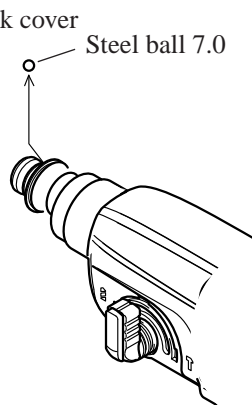

Fig. 1A
2. Take off ring spring 19. Then, the following parts can be disassembled from tool holder. See Fig. 1A.
3. Take off steel ball 7.0 with which guide washer and conical compression spring 21-29 are held. See Fig. 1A.
2. Assemble conical compression spring 21-29 and guide washer, and hold guide washer with steel ball 7.0. See Fig. 1B and Fig. 1A.
3. Assemble ring 21 and chuck cover to tool holder. And then, hold them with ring spring 19. See Fig. 1A.